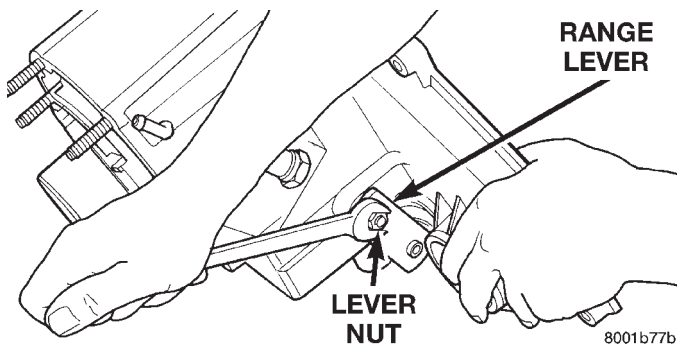

Fig. 62 Range Lever Installation
(3) Install range lever, washer, and nut on sector shaft (Fig. 62). Tighten range lever nut to 27–34 N·m (20–25 ft. lbs.) torque.